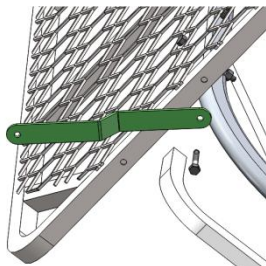

Figure 13
Step 13: Attach the four flat iron supports (TS305.14) to the platform by using four 1/4"-20×1-1/2" bolts (48240B) and four 1/4" lock nuts (48752B). Leave these hand tight for now (**Figure 13 & 14**).